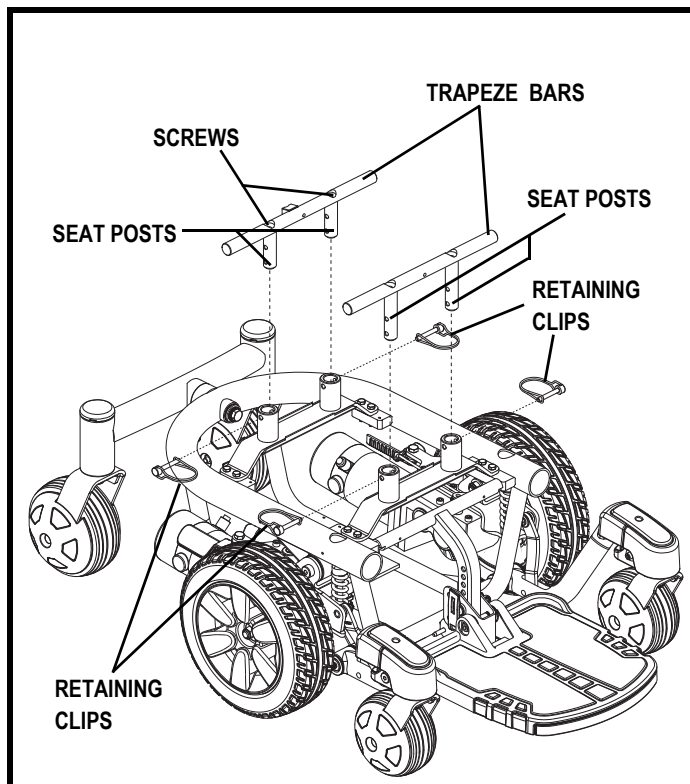

Figure 16. Seat Height Adjustment - Trapeze Bars
8. Loosen the screws that attach the trapeze bars to the seat posts. **See figure 16.**
9. Remove the retaining clips that secure the seat posts to the power base. **See figure 16.**